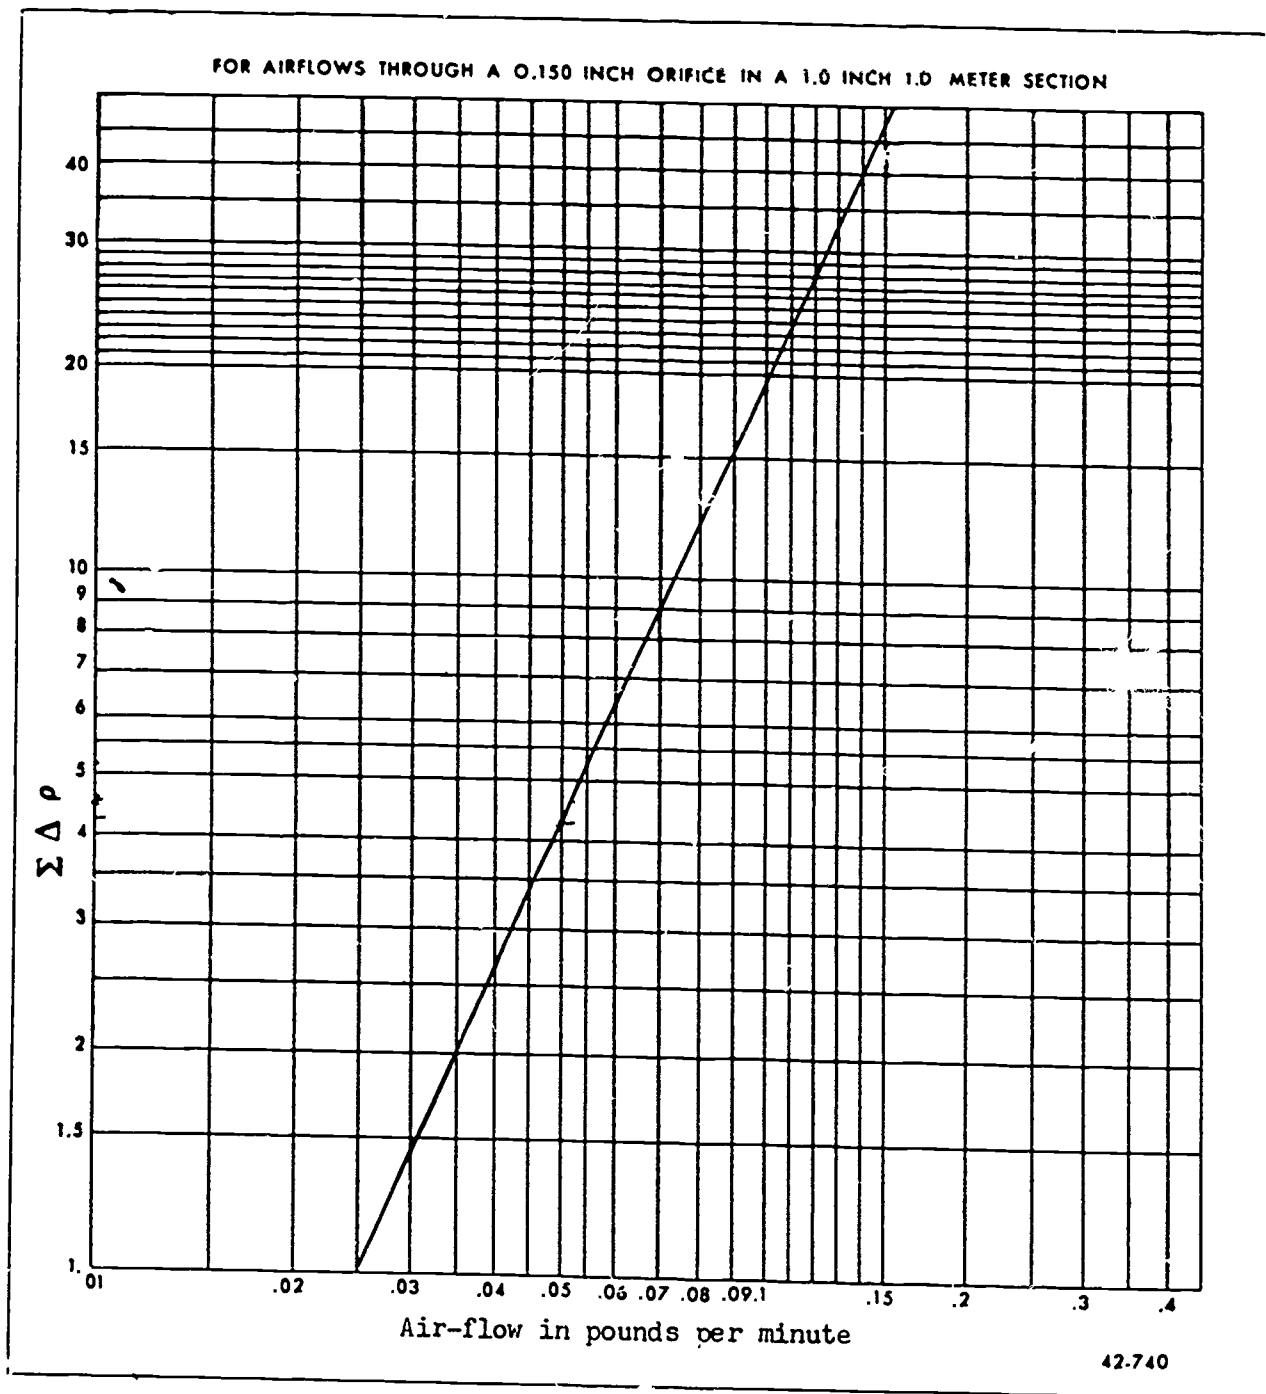

Figure 4. Air Flow Chart.
STEP 9: Figure 4 is a flow chart that will show the allowable leakage of a valve when the leakage test is made using a .150 orifice. Each shop will have a complete set of orifices and charts to use for each valve tested. Since the 3038 trainer has a .150 orifice, let us see how the flow chart works.
(1) Find the conversion factor (28) on the left side of the chart. Follow the horizontal line to the right until it intersects with the diagonal line.